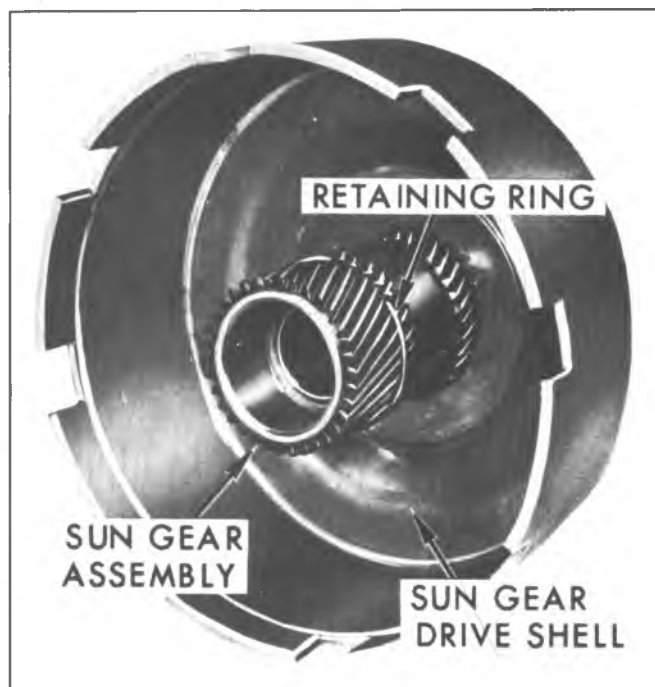

Fig. 7A-92B--Removing Sun Gear to Drive Shell Front Steel Thrust Washer
4. Remove sun gear to drive shell front retaining ring (fig. 7A-92B). Discard retaining ring.